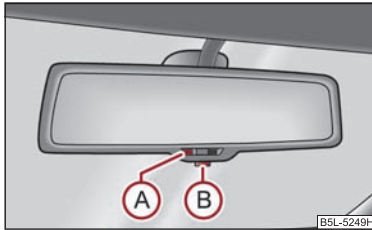

Fig. 53 Automatic dimming interior rear-view mirror
- Press the button **B** ⇒ page 67, fig. 53, the warning light **A** lights up.